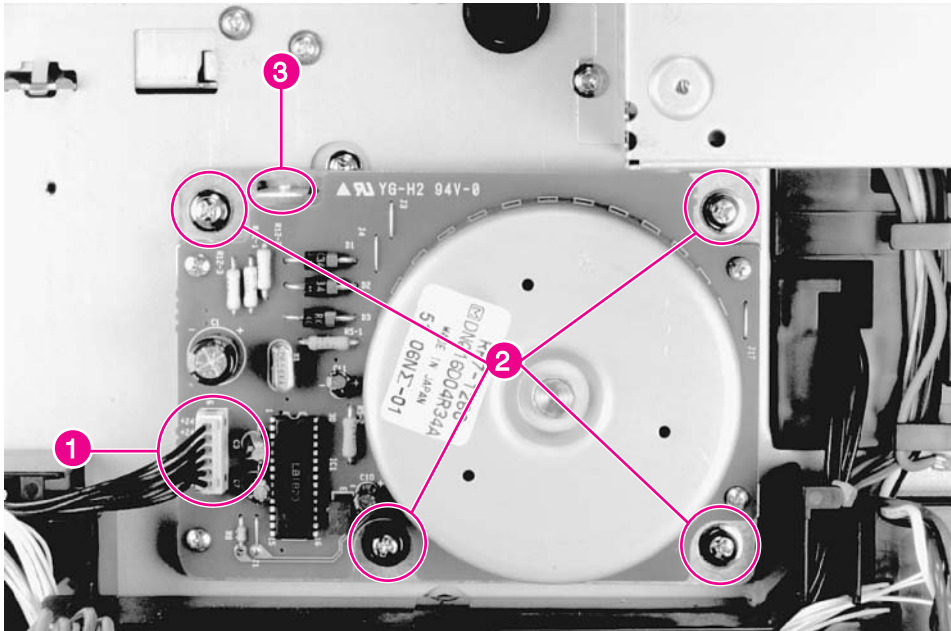

Figure 6-39 Main Motor
- Main Motor (see figure 6-39 on page 205)
- 3 Unplug the connector (figure 6-39, callout 1).
- 4 Remove 4 screws (figure 6-39, callout 2).
Align the Main Motor to the chassis with the locator tab (figure 6-39, callout 3) and the machined ring around the output shaft.